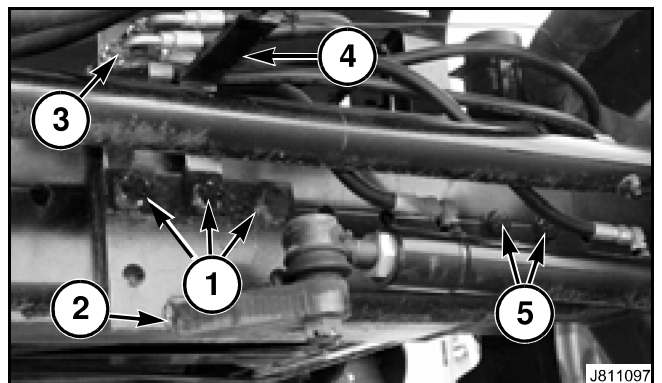

FIG. 101
FIG. 101: Right-Hand - Remove the three hex lock nuts, hardened spacers, and the cap screws (1) securing Right Hand cylinder anchor bracket (2), support bracket (3) for the steering hose bulk head fittings, and motor supply hose support/guide (4). Carefully lower the bracket and cylinder until weight is carried by outer socket assembly.